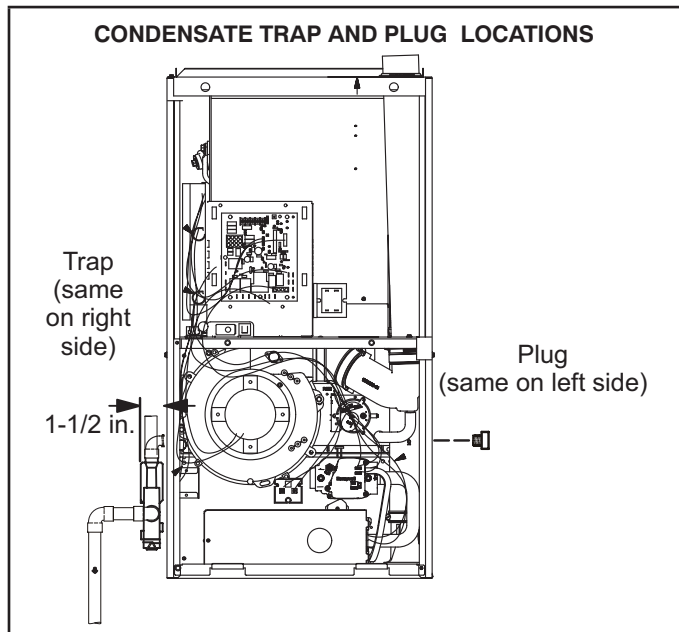
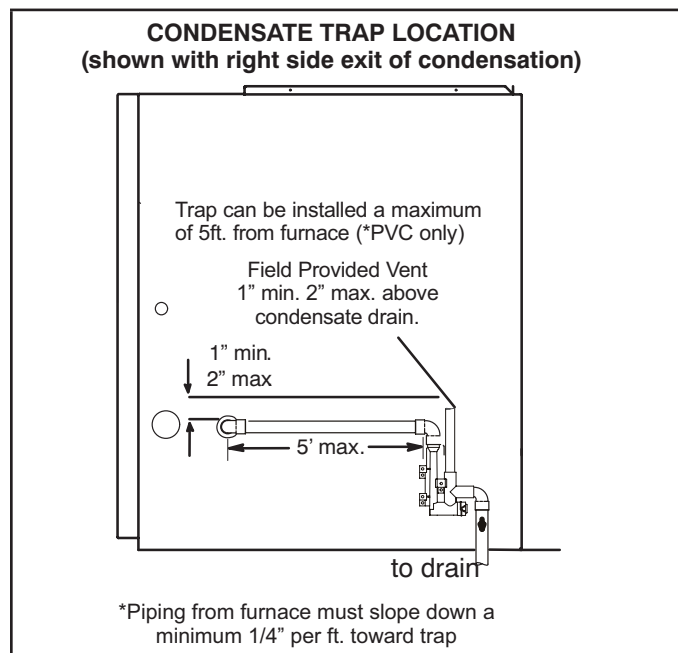

FIGURE 44
FIGURE 46
This unit is designed for either right- or left-side exit of condensate piping. Refer to FIGURE 44 and FIGURE 46 for condensate trap locations.
- 2 - Use a large flat head screw driver or a 1/2" drive socket extension and remove plug (FIGURE 44) from the cold end header box at the appropriate location on the side of the unit. Install provided 3/4 NPT street elbow fitting into cold end header box. Use Teflon tape or appropriate pipe dope.